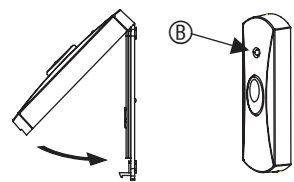

Fig 4
When the bell push button is pressed, the confidence light (B) in Fig 4, will illuminate to reassure the caller that the bell push is working. The light will flash 5 times when the battery needs replacing.